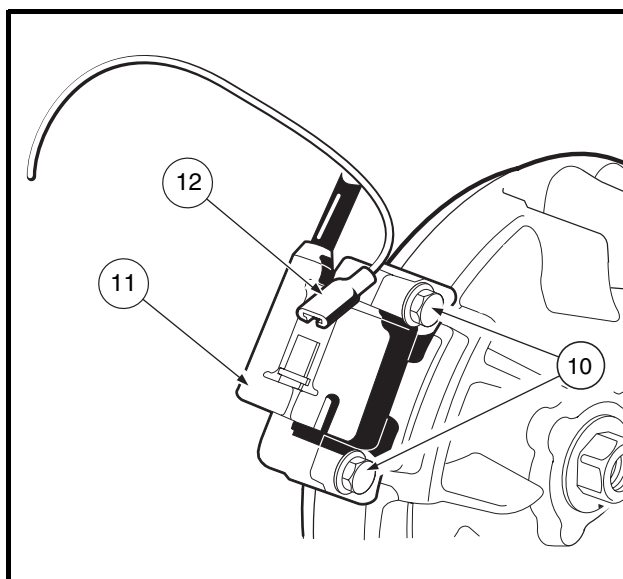

Figure 12-27 Coil Removal
9. Disconnect the 18-gauge black wire (12) from the spade terminal on the ignition coil (11) and remove the coil by removing two bolts (10) (**Figure 12-27, Page 12-25**).